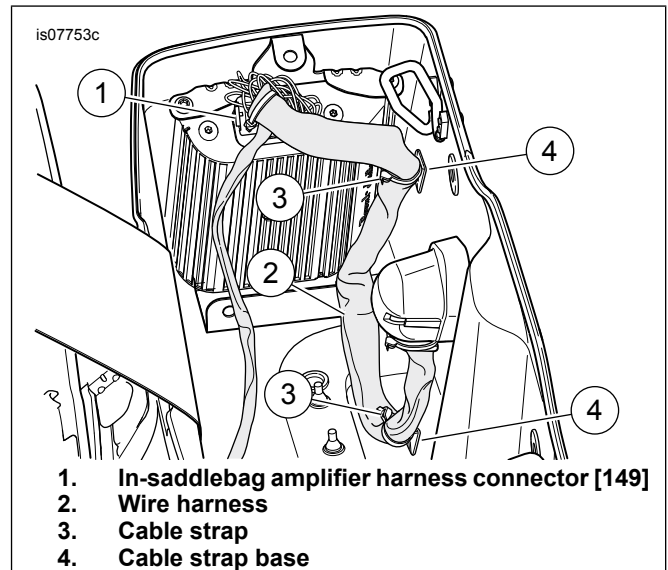

Figure 8. Inner Harness Routing
3. See Figure 8. Install the amplifier cover on the bracket. Secure with three clips.